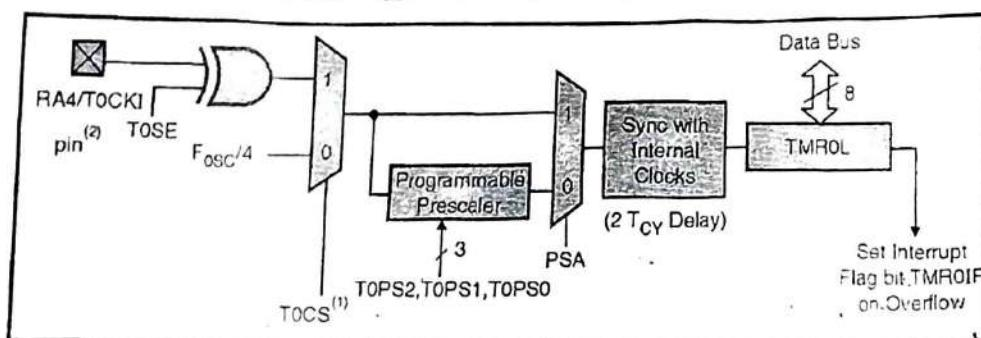
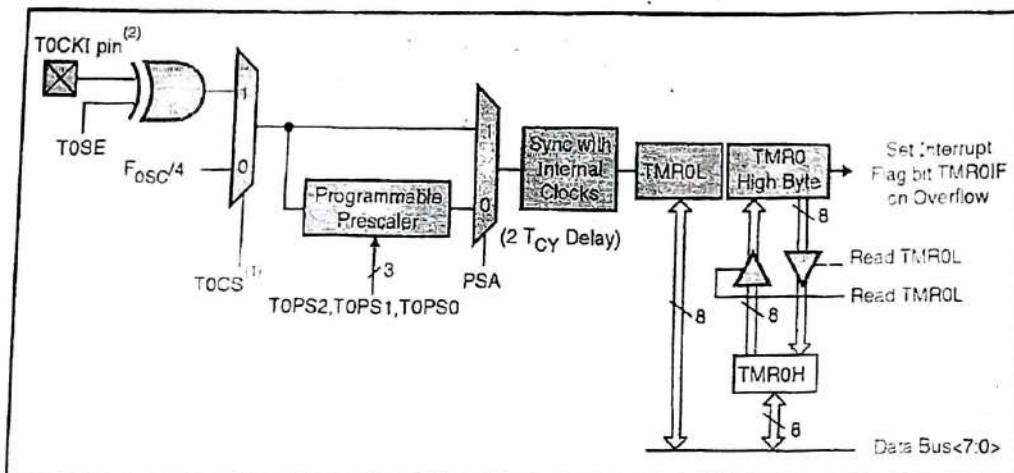

Fig. 5.3.1 : Timer 0 block diagram in 8-bit mode
Fig. 5.3.2 :Timer 0 block diagram in 16-bit mode
- Fig. 5.3.1 shows a simplified block diagram of the Timer 0 module in 8-bit mode and Fig. 5.3.2 shows a simplified block diagram of the Timer 0 module in 16-bit mode.
- The Fig. 5.3.1 and 5.3.2 shows the block diagram of Timer 0 in 8-bit as well as in 16-bit mode.